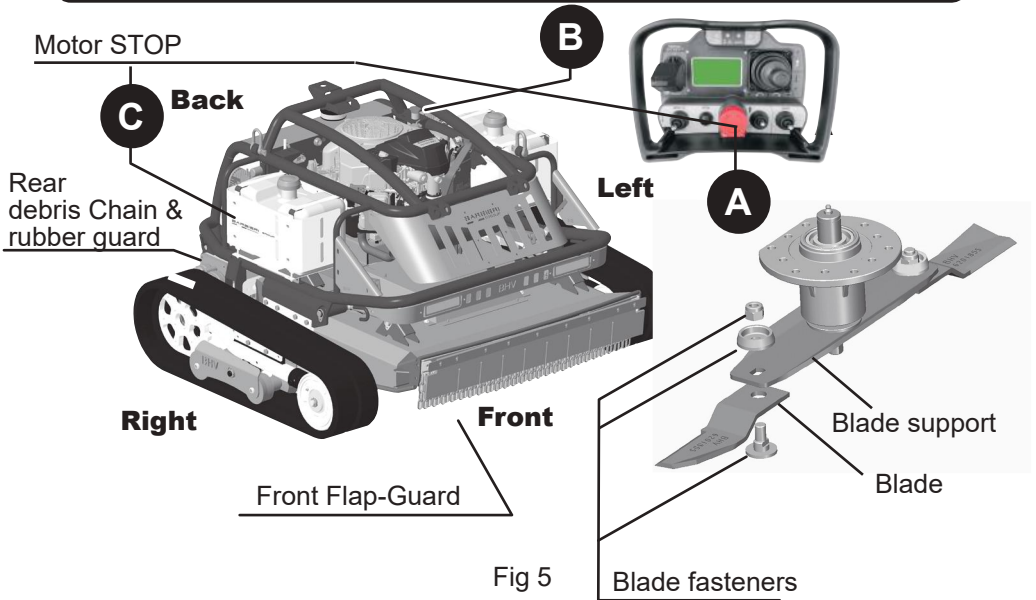

Fig 5
The terms “FRONT” - “REAR” - “RIGHT” - “LEFT” used in this handbook and in the spare parts catalogue, are referred to the machine as shown in Fig. 5
- 1 - Engine-Stop devices (A) (B) and (C)(Fig.5)
- 3 - Front and rear shield to stop the objects thrown by the blade (Fig. 5)
- 4 - Blade and blade fasteners (Fig. 5)